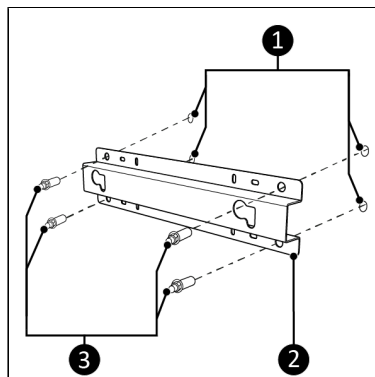

Figure 30.
4. Place the bracket against the wall and mark the four holes (Figure 30, pos. 1). Make sure to place the bracket upright (see the “This side up” label on the bracket).
5. Drill four 10 mm holes at the marked spots (Figure 30, pos. 1).
7. Tighten the bracket (Figure 30, pos. 2) to the wall with the four nuts (Figure 30, pos. 3).